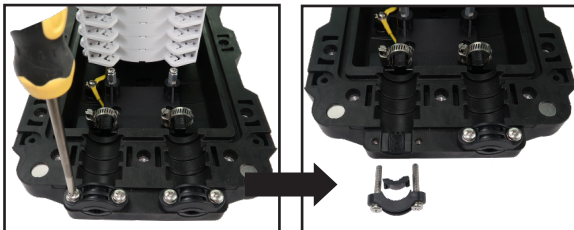

Figure 1-14: Remove cable clamp
- 1 Turn over the splice tray and remove the cable clamp from the tray (Figure 1-14).